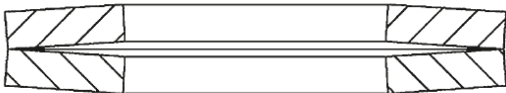

Figure 3. Proper Disc Spring Arrangement (uncompressed)
3. With a brush, clean body studs (19) and gland stud (15) of foreign material such as paint, thread locker, grime and commodity. Inspect the threads for damage or defect with appropriate ring or plug gage. Repair any out-of-tolerance threads or replace in-kind.
4. Re-inspect all components for damage to the sealing areas, stem (5), body (1), and end piece (2). Replace any damaged parts.
5. Carefully clean and polish the ball (3) sealing surface: It should be free of all scratches and grooves.
7. Place stem washer (6) over stem (5) and gently press into place against shoulder on stem (5).
8. Insert the stem (5) into the body (1), being careful not to scratch the stem sealing surface; and press it gently up into the stem bore until resistance is felt from the stem washer (6).
9. Holding stem (5) in place from the bottom, insert stem seal (7), stem retainer 1 (8), v-ring stem seal (9), and stem retainer 2 (10) with both inner and outer o-rings (11) and (12).
10. Install disc springs (13) (see **Figure 3** for proper orientation), gland flange (14), and gland flange nuts (16).
11. Tighten gland nuts (16) evenly until stem seal (9) is compressed and then tighten an additional 1/4 turn. Visually inspect to ensure gland flange (14) is parallel with top of actuator mounting flange.